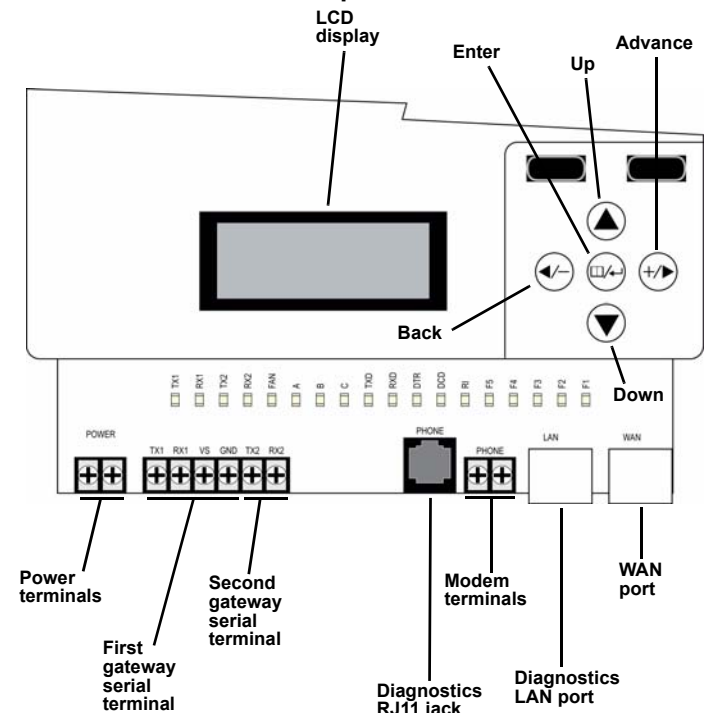

Figure 3 RDL8500 internal components
4. If you will be using TapWatch.com, connect one end of an unshielded Cat 5e Ethernet patch cable to the RDL8500 WAN port (Figure 3); if you will be using TapWatch 3, skip to step 7.
Connection to TapWatch.com is verified through the LCD display (Figure 3). The LCD display default screen provides date, time, and the firmware version. To verify connection to TapWatch.com:
11. From the default screen, press the advance button (Figure 3).